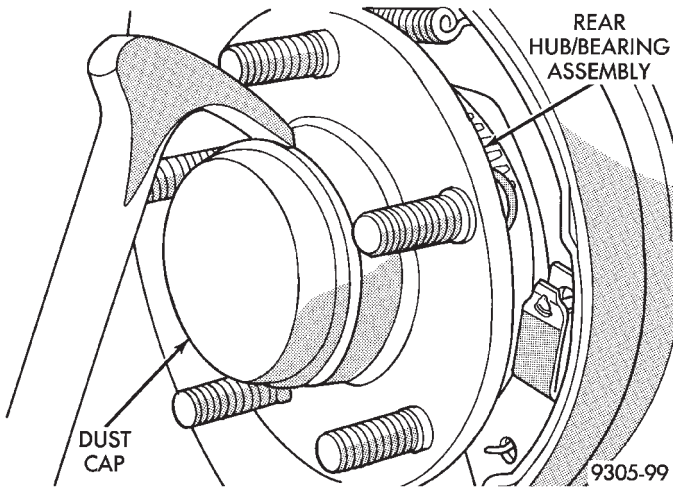

Fig. 80 Dust Cap Removal
(1) Raise vehicle on jackstands or a frame contact type hoist. See Hoisting in the Lubrication And Maintenance group of this service manual.
(2) Remove rear tire and wheel assembly from the vehicle.
(3) Remove rear hub and bearing assembly dust cap (Fig. 80).